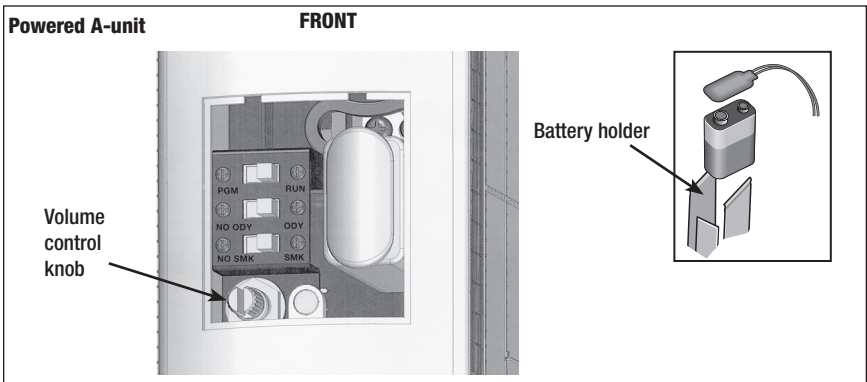

Figure 5. Battery installation (powered A-unit locomotive only)
Use the **HORN** and **BELL** buttons on your transformer to activate those features. Adjust the volume using the volume control knob, which is located under the rear rooftop hatch on the powered unit. Refer to Figure 5 on page 9. For more information, please refer to the Conventional transformer operations section of this manual.
1. As illustrated in Figure 5 below, carefully lift up and remove the rear rooftop hatch to access the battery harness.